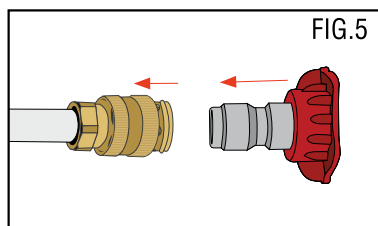

FIG.5
3. Pull pack brass collar on end of the extension rod, and insert the Jet Spray nozzle or Flat Spray nozzle, then allow collar to spring back into place to lock. See Fig. 5